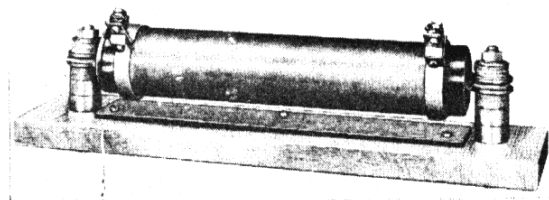

Fig. 10—Typical Type TM Resistor Unit and Mounting
**3. TYPE TM RESISTOR**—The Type TM Resistor is a wirewound unit which can be manufactured with resistance values which range from 4 to 10,000 ohms. A mica wrapping insulates the resistance wire winding from the steel tube support. Mounting lugs are spot welded to each end of the steel support tubing. The space between the turns of the resistance wire is filled with a refractory cement to support the turns and prevent them from coming in contact with each other. Connections to the resistance element are made with clamp-on terminals. Type TM and HM Resistor units may be supported in the same mounting assembly as the mounting stud and insulation assembly is exactly the same for either type of resistor unit. A Type TM Resistor unit and its mounting are shown by Fig. 10.